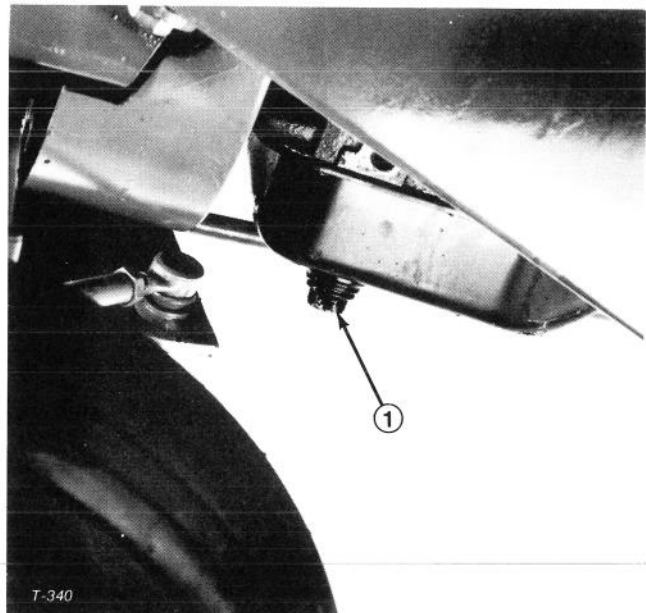

Figure 44
2. Disengage hood latch and open the hood. Set drain pan under the housing and in line with drain plug (Fig. 44).